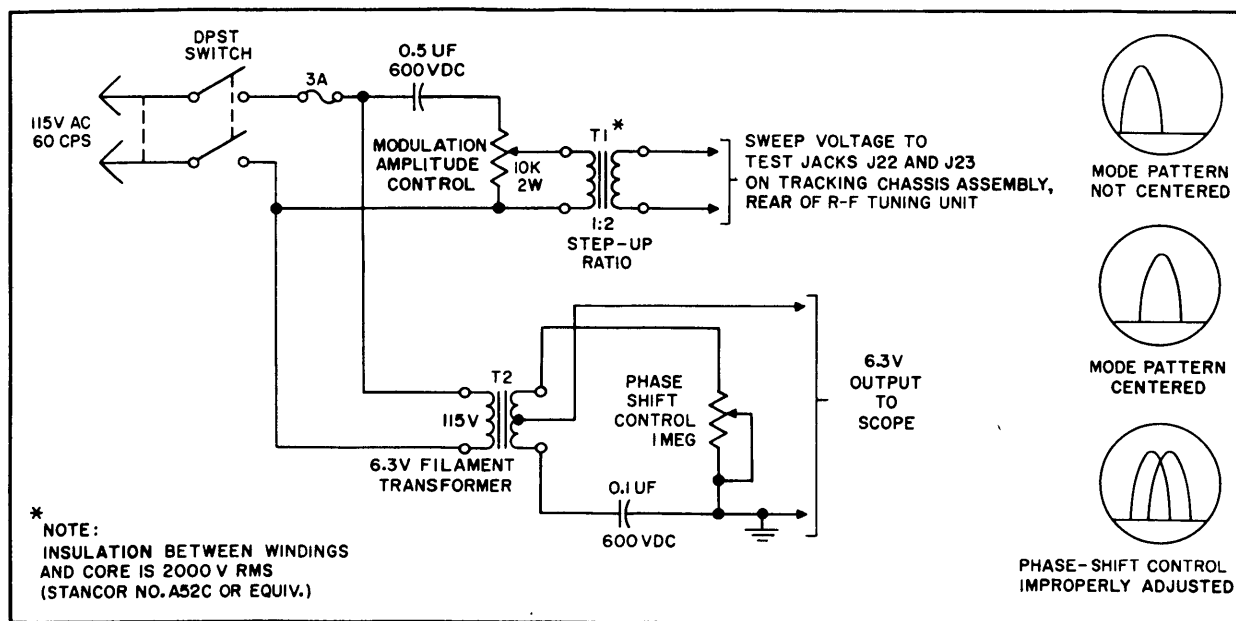

Figure 6-15. Repeller Voltage Tracking, Test Set-up Diagram
6-20. REPELLER VOLTAGE TRACKING ADJUSTMENTS. The repeller voltage tracking procedure which follows is based on the understanding that the spectrum analyzer has been previously aligned and operating satisfactorily, but that the klystron tube has been changed. Before making any adjustments, check over the band for crystal current. The tracking adjustment of the previous tube may be satisfactory for the replacement tube. To set the repeller tracking voltages, if required, a test set-up (as indicated in figure 6-15) and a high gain oscilloscope will be necessary. Proceed as directed in the following steps:
f. Connect the output of the phase shifting circuit (figure 6-15) to the EXT HORIZ SWEEP INPUT of the external high-gain oscilloscope.